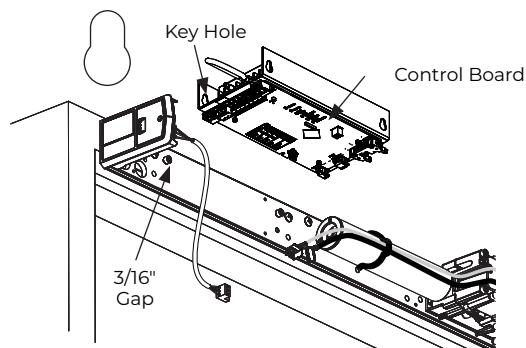

Figure 10
1. Insert two (2) screws. Leave $\frac{3}{16}$ " gap between head of screw and backplate. (Figure 10)
2. Slide power supply key holes over screws allowing narrow slots of key holes to rest on screws. (Figure 10)
NOTE: Narrow slots of key holes are always at top and control board is always at bottom for proper installation. (Figure 10)